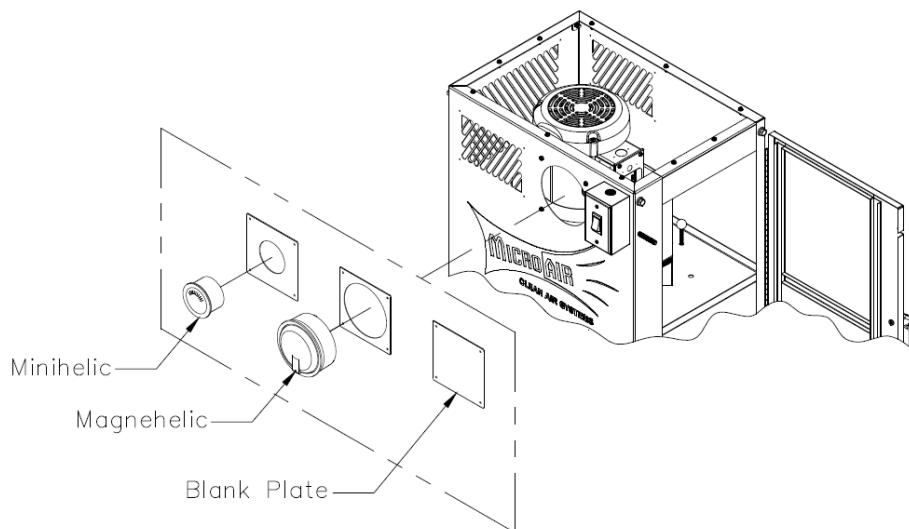
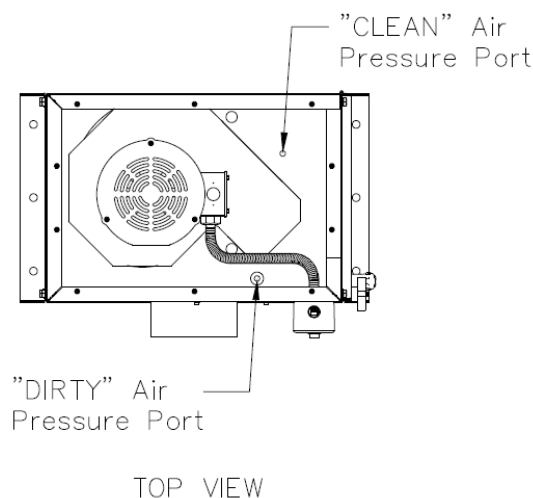

FIG. 5
FIG. 6
5. Remove the two 4-Arm knobs from door. Open door to access motor/blower area (**FIG. 5**).
- ii. Install the (2) male barb fittings on the pressure ports located on the side of the gauge. Plug the two ports located on the back of the gauge. Fittings come included with the gauge. **NOTE:** It is best to install fittings on gauge before mounting.
- iii. Plumb the gauge. Run the  $\frac{1}{8}$ " air hose and connect the "LOW" pressure port on the gauge to the DIRTY air plenum port and "HIGH" pressure port to the CLEAN air plenum port. Run the air hose through grommets (**FIG. 6**).
- ii. Plumb the gauge. Run the  $\frac{1}{8}$ " air hose and connect the "LOW" pressure port on the gauge to the DIRTY air plenum port and "HIGH" pressure port to the CLEAN air plenum port. Run the air hose through grommets (**FIG. 6**).